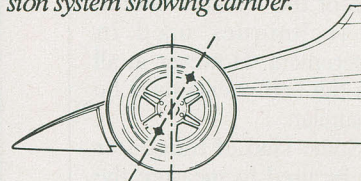

Fig. 2. Side view showing positive caster.
**CASTER:** Fig. 2 shows a side view of a front suspension system. Whether the vehicle uses a Short-Long Arm suspension or some kind of strut, there is a steering axis on which the wheel pivots. It is measured in degrees from the vertical and is described as the forward or rearward tilt of the steering axis. A rearward tilt is positive while a forward tilt is negative. Caster affects handling. More positive caster will cause the steering to return to centre more easily after a turn and tend to stay there reducing wander. The drawback to this is the tendency for road noise and shock to travel more directly through the steering mechanism to the steering wheel. If one wheel has more positive caster than the other, the car will have a tendency to pull to the side with the least positive caster.